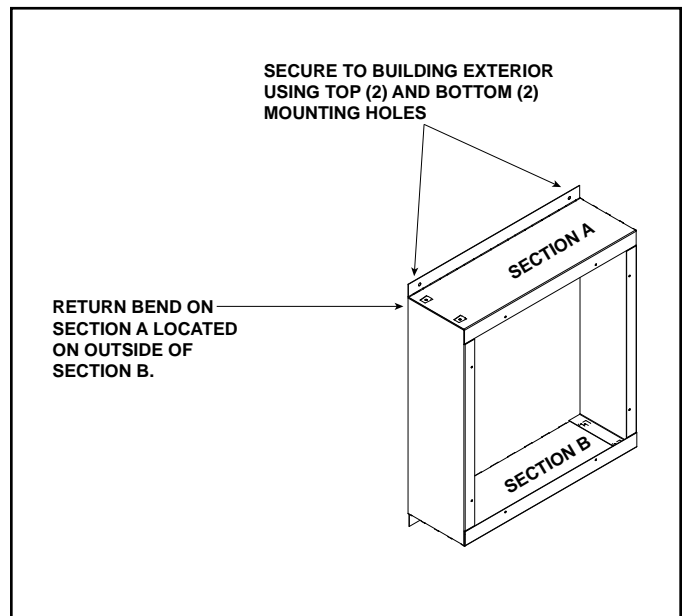

Figure 6. BEK Assembled
7. Use the supplied screws to assemble the box as shown in Figure 6. The return bend on section A should be located on the outside of section B.